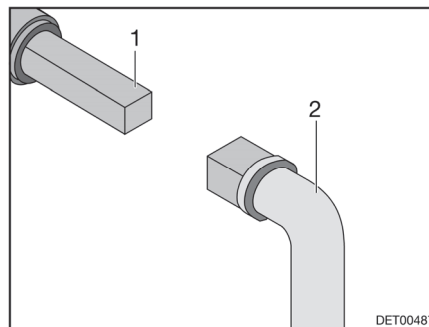

Fig. 145 Operation of the waste water tap
- Place key (Fig. 145,2) onto the square bolt (Fig. 145,1).